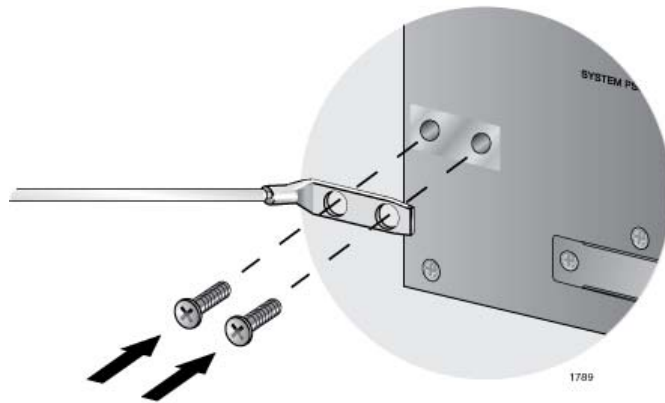

Figure 39. Installing the Grounding Lug and Wire
4. Install the grounding lug on the rear panel of the chassis, as shown in Figure 39.